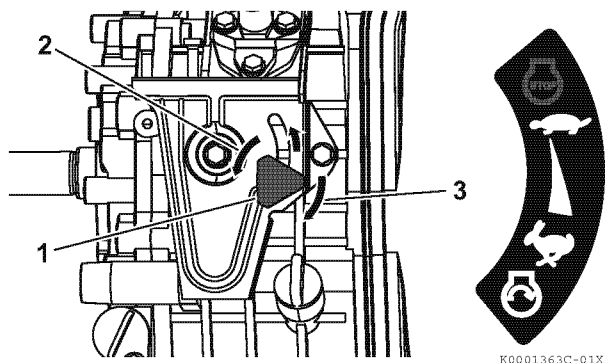

Figure 18
3. If your engine speed control is similar to **Figure 18**:
- 1- Turn the engine speed control knob (1, **Figure 18**) to the left (2, **Figure 18**).
- 3- Turn the engine speed control knob to the right (3, **Figure 18**) to tighten it.